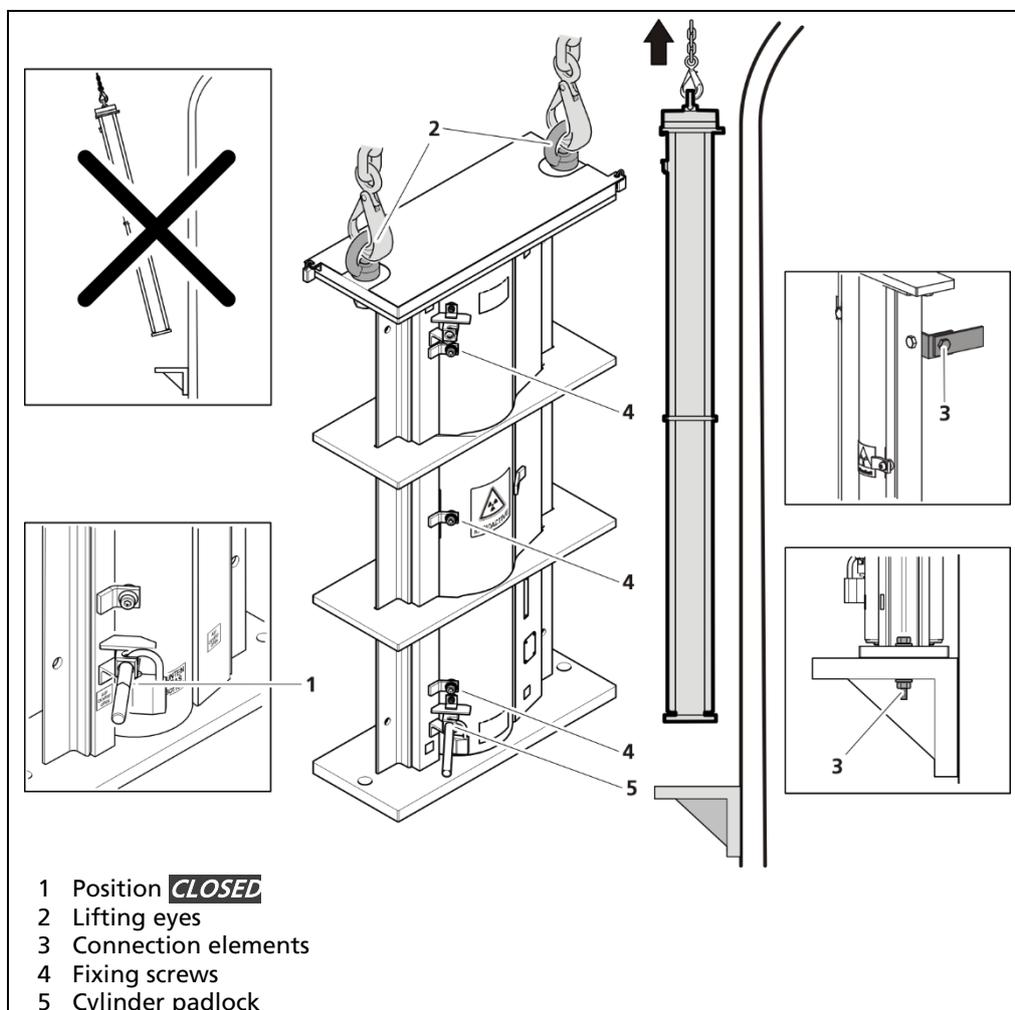

Fig. 16 Dismantle the shield
- ▶ The fixing screws (Fig. 16, item 4) and, if applicable, the cylinder padlock (Fig. 16, item 5) are installed.
2. Fasten the shield with sufficiently sized lifting straps at the lifting eyes (Fig. 16, item 2).
3. Remove all connection elements (Fig. 16, item 3).